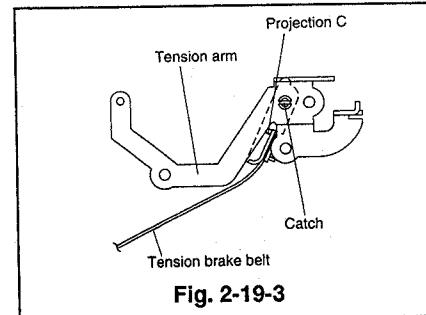
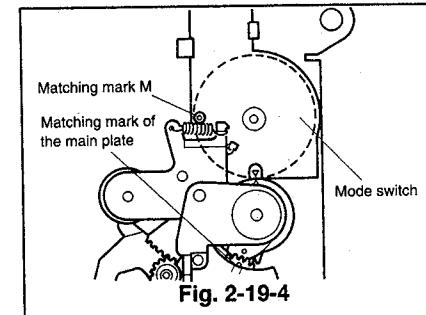
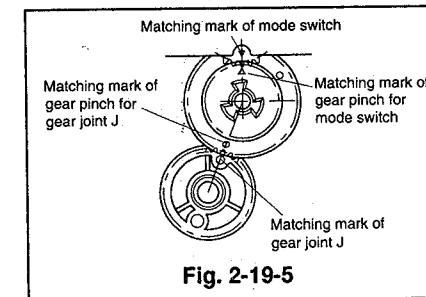
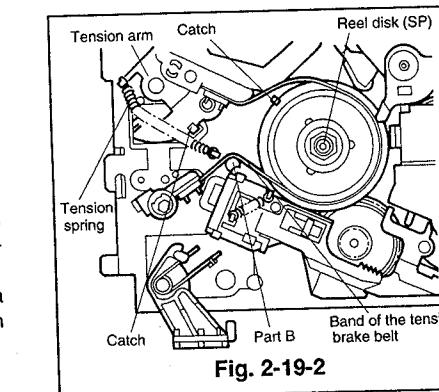

Fig. 2-19-3
Fig. 2-19-4
Fig. 2-19-5
Fig. 2-19-2
- ① Insert the catch in the position of the tension arm as shown in Fig. 2-19-3 to fasten the tension brake belt on the tension arm. (Take care not to let projection C, next to the catch of the tension brake belt touch the tension arm.)
- ② Install the tension arm, where the tension brake belt is fastened, on the main plate.
- ③ Fasten the tension brake belt around the supply reel disk. (The band of the tension brake belt must pass the outside of the catch shown in Fig. 2-19-2 and inside of the part B.)
- ④ Attach the tension spring.
- ⑤ Install the sub brake(SP) and sub spring(SP). (Refer to Para. 2-14 for the installation method.)
- ⑥ Supply voltage(approximately 5V), reversing the polarity used in ② of the Removal method, to set the motor to the unloaded position.
- ⑦ Make sure that the holes (matching mark M) on the body and cogwheel of the mode switch align with each other as shown in Fig. 2-19-4. At the same time confirm that the hole of the gear pinch aligns with the matching marks of the gear joint J and the ∇ mark on the mode switch cogwheel, refer to Fig. 2-19-5. This indicates the J deck is in the EJECT mode.
- ⑧ If the deck is not completely set to the eject mode, turn part D of the pulley worm J by hand to set the eject mode.
- ⑤ Remove the tension spring, unfasten the catch shown in Fig. 2-19-2, and raise the tension arm upward to remove it.
- ⑥ Reverse the tension arm, unfasten the catch with a tweezers as shown in Fig. 2-19-3 to remove the tension brake belt.